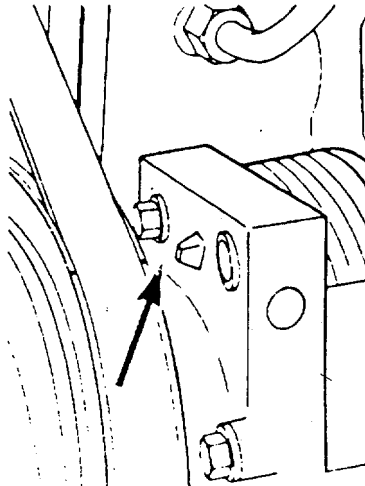

FIGURE 3-31. *Accessory Drive and Pulley.*
- b. Remove the self-locking hexagon nut (12, Figure 3-31) and flat washer (11).
- c. Remove the pulley (14, Figure 3-31), rubber strip (13) with standard gear puller.
- a. Disassemble the power take-off transmission parts from the shaft (4, Figure 3-31) as follows:
- (1) Remove the capscrew (1) and washer (20) from the shaft (4).
- (2) Install the capscrew (1) onto the shaft (4) after washer (20) has been removed.
- (3) Remove the coupling (2) using coupling puller.
- (4) Remove washer (19).
- (5) Remove thrust washers (3 and 7).
- (6) Remove the shaft (4) and gear (8) from the housing (17).
- (7) Remove the gear (8) from the shaft (4) as follows:
- (a) Remove the headless pin (18) from the shaft (4).
- (b) Put the housing side of the gear (8) onto a support and use a press to push the shaft (4) from the gear (8).
- b. Disassemble pulley (14, Figure 3-31) as follows:
- (4) After the press fit has been relieved, remove the sleeve (10, Figure 3-31) by hand.
- (1) Clean all parts with cleaning solvent.
- (2) Dry with compressed air.
- (3) Check the bushing (16, Figure 3-31) in the drive housing.
- (4) If the bushing is worn larger than 1.321 inch, remove and discard bushing.
- (5) Check the shaft (4) for wear distortion or damage.
- (6) The outside diameter of the shaft must not be worn less than 1.310 inch (33.27 mm).
- a. Assemble the power take-off transmission parts onto the shaft (4, Figure 3-31).
- (1) Install the headless pin (18) into the shaft (4).
- (2) Install the gear (8) onto the shaft (4) as follows:
- (3) Apply a coat of lubricating oil to the thrust washer (7) and bushing (16) in the housing.
- (11) Install the washer (20) and capscrew (1).
- (12) Tighten the capscrew to 30 to 35 ft-lb (41 to 47 N-m) torque.
- b. Assemble pulley (14, Figure 3-31).
- (1) Support the pulley (14) in an arbor press.
- (2) Place the wear sleeve (10) on the pulley seal wear surface with the chamfer on the outside diameter of the wear sleeve (10) facing up (away from the pulley).
- (3) Place a flat steel plate on top of the wear sleeve (10).